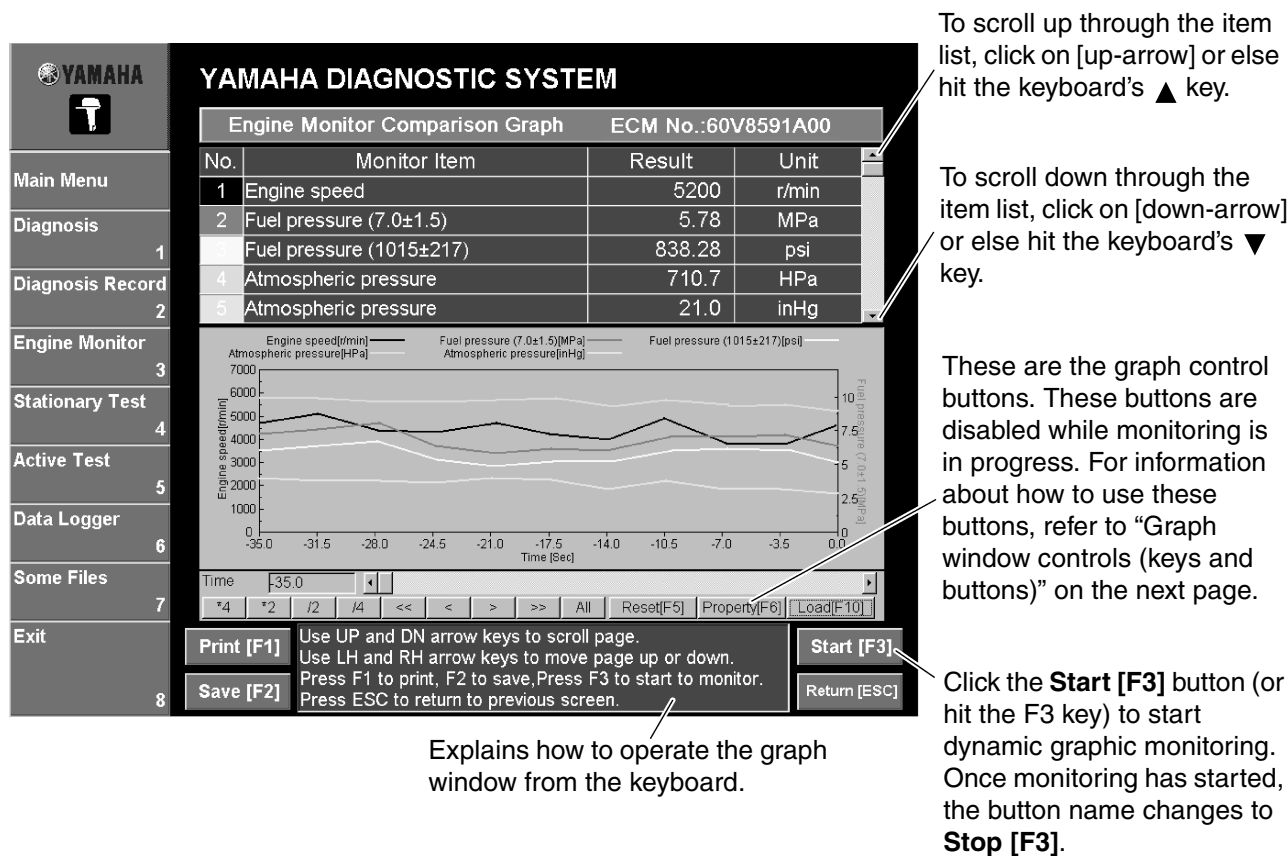

Fig. 28
- 2. The program displays the comparison graph window. (Fig. 28)
- 3. Click the **Start [F3]** button or press the F3 key to begin graphing. The program reads the monitored signals (using default settings) and generates the graph accordingly. (Fig. 28)
- 6. When you are finished with graphic monitoring, click the **Return [Esc]** button (or press the ESC key). (Fig. 28)
8. If you wish to change the way that the program inputs and graphs the monitored data, click the **Properties [F6]** button (or press F6). (Fig. 28) This program responds by opening the graph properties window, illustrated below. To set the graph property refer to the graph setting table.